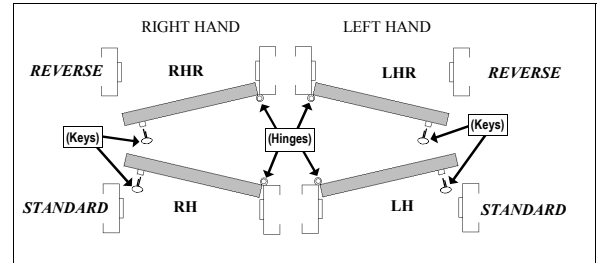

Fig. 2: Cross Section Top View -- Door Hand
2. With the key always on the outside, the door *hand* is generally determined by the location of the hinges—hinges are either inside or outside. See Fig. 2.